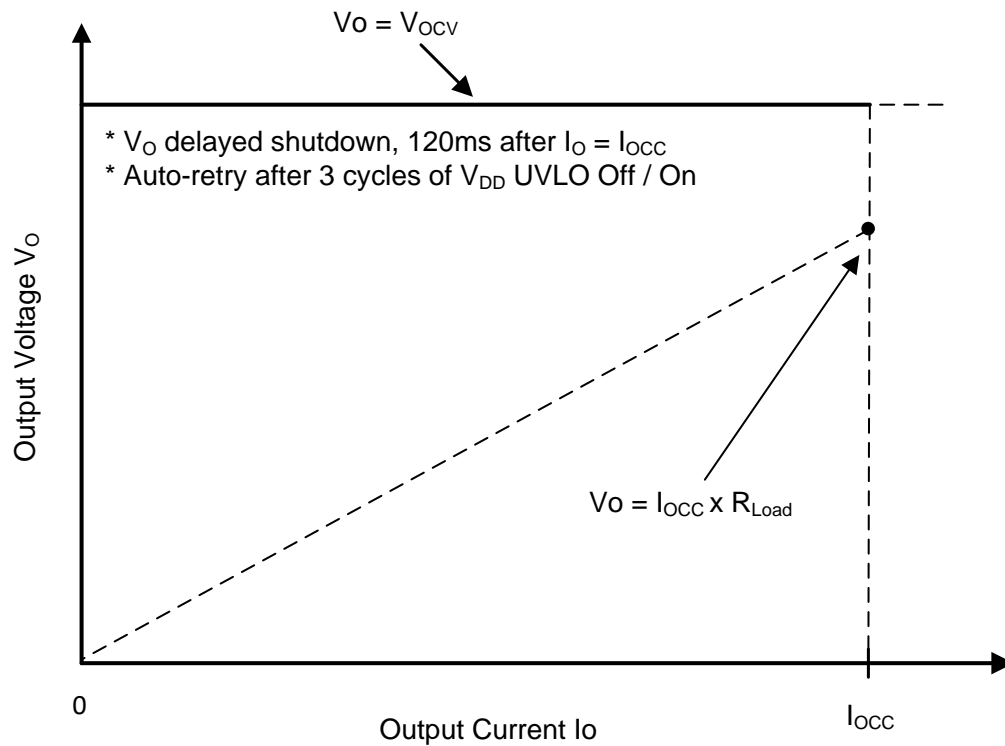

Figure 14. Typical Target Output V-I Characteristics
As shown in Figure 14 below, CV mode operation is from  $I_O = 0$  to  $< I_{OCC}$ ; at  $I_O = I_{OCC}$ , the operation enters constant current limit mode and  $V_O$  starts to drop as the load resistance becomes further lower while  $I_O$  is maintained at  $I_{OCC}$  for a time interval specified by  $t_{OVL\_TIME}$  typically 120 ms then DRV stops to achieve converter output delayed shutdown. During the 120-ms timing interval, if load  $I_O$  reduces to  $< I_{OCC}$ , the timer will be reset and no shutdown will occur. The V-I curve corresponding to the operation is shown in Figure 14, and the delayed shutdown timing diagram is shown in Figure 15. Note (1) The timer  $t_{OVL\_TIME}$  is triggered whenever  $I_O$  reaches  $I_{OCC}$  and reset when  $I_O$  drops to  $< I_{OCC}$  before 120ms-time-out. (2) during 120-ms time interval, when load resistance becomes so low during constant current interval that causes the device VDD to reach its  $V_{VDD(off)}$  and then the shutdown will be through VDD undervoltage lockout instead of through Constant Current Limit and Delayed Shutdown. In such a case, the shutdown can happen before 120ms timer out.